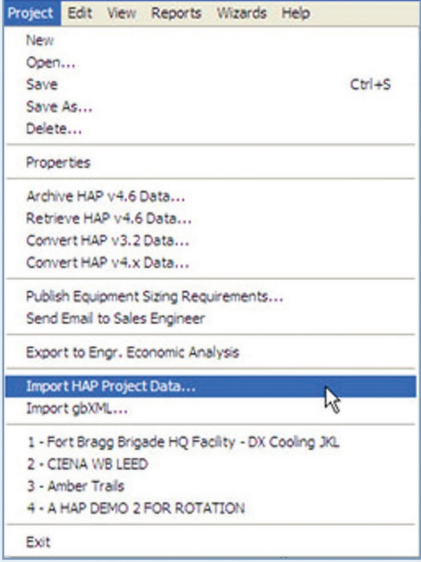

Figure 1- Import HAP Project Data
- 2 From the Project menu, select "Import HAP Project Data..." as shown in Figure 1.